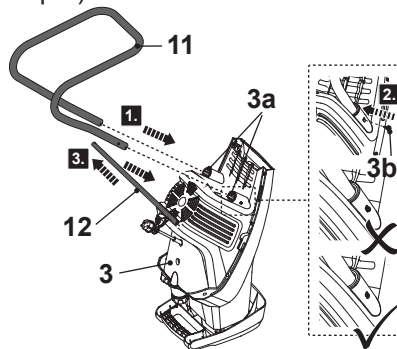

Fig. 1
1. Place cardboard or an old blanket on floor, then carefully place the main unit (3) upside down.
2. Align and insert the frame (11) into the two supports (3a) to the end (Fig. 1, step 1). Ensure that the screw holes between the frame (11) and the support (3a) are well aligned. Use a rubber mallet if necessary.
3. Secure the connections with the screws (3b) (Fig. 1, step 2). Make sure that the screw head is flush with the housing of the supports (3a).
4. Align the wheel axle (12) with the holes on the frame (11) and insert it through both sides (Fig. 1, step 3). Ensure that the wheel axle (12) is centred.